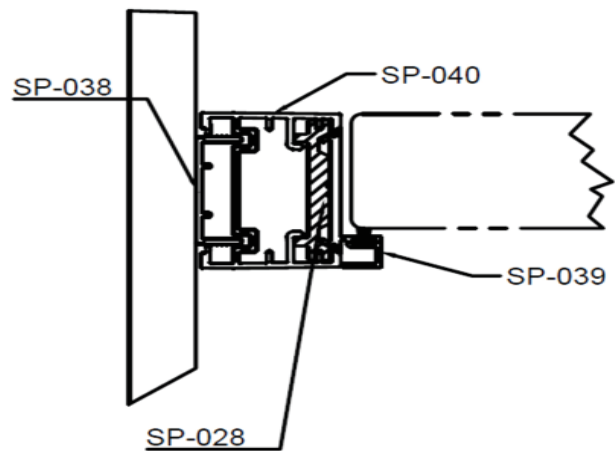

Figure 2: Detail Drawing 53
Step 3: Install vertical H-channel stud on strike jamb side of opening (see fig. 2).